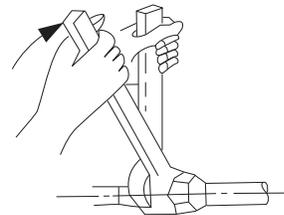

Fig. 11 – Tighten Flare Nut
6. Tighten flare nut and finish installation using two wrenches as shown in Fig. 11.
10. Connect refrigerant piping and drain line outside of indoor unit. Refer to Fig. 11 for proper installation of flare connections. Complete pipe insulation at flare connection then fasten piping and wiring to the wall as required. Completely seal the hole in the wall.